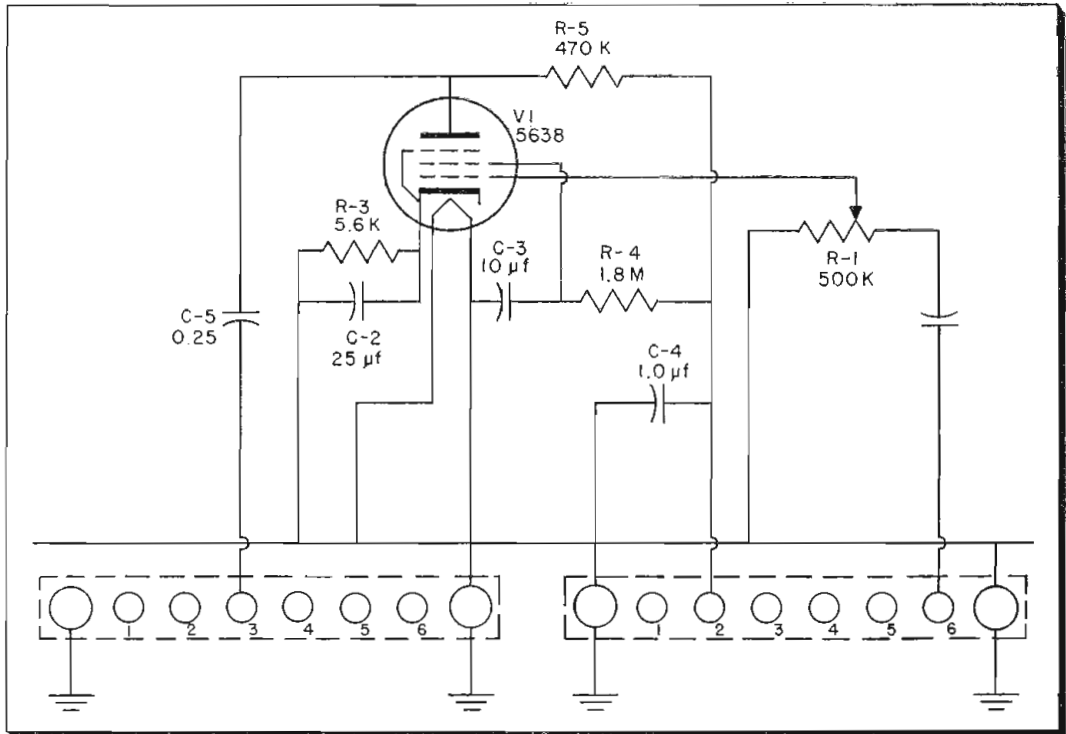

Fig. 7: Low-input voltage amplifier shown at position N on Fig. 4
For very low voltages an amplifier, such as shown at position (N) on Fig. 4 is used. Its circuit is given on Fig. 7.